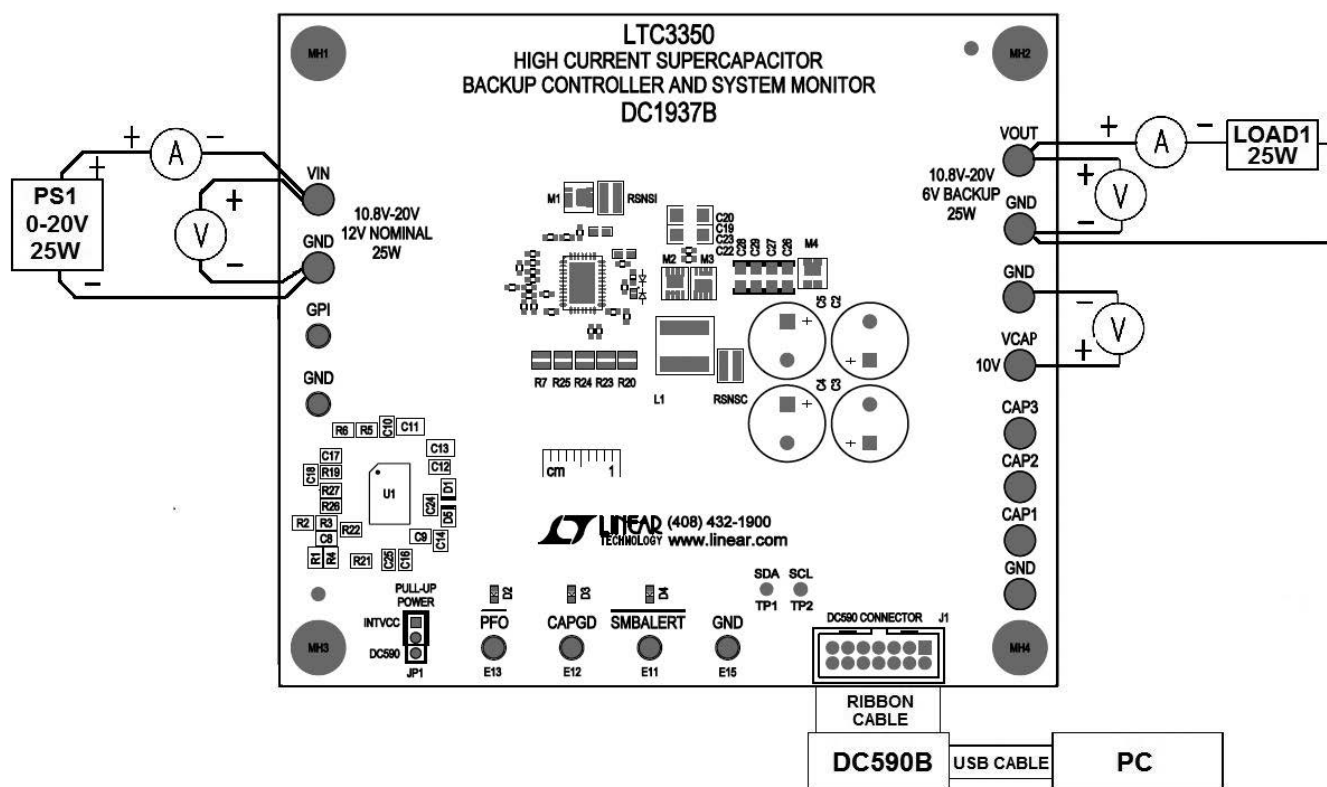

Figure 1. Proper Measurement Equipment Setup
Obtain and connect a DC590B board to the DC1937B board. Using short twisted pair leads for the power connections and with the LOAD and the power supply OFF. Refer to Figure 1 and Figure 2 for the proper measurement and equipment setup. Follow the procedure below.
7. With power off, connect a 0V to 20V, 25W supply between the VIN and GND terminals with a series ammeter and a voltmeter as shown in Figure 1.